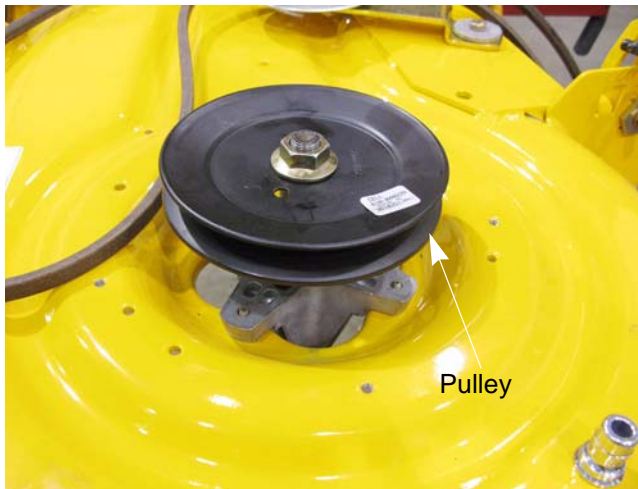

Figure 7.15
5. Remove the nut that holds the pulley to the spindle shaft using an impact wrench and a 15/16" socket. See Figure 7.15.